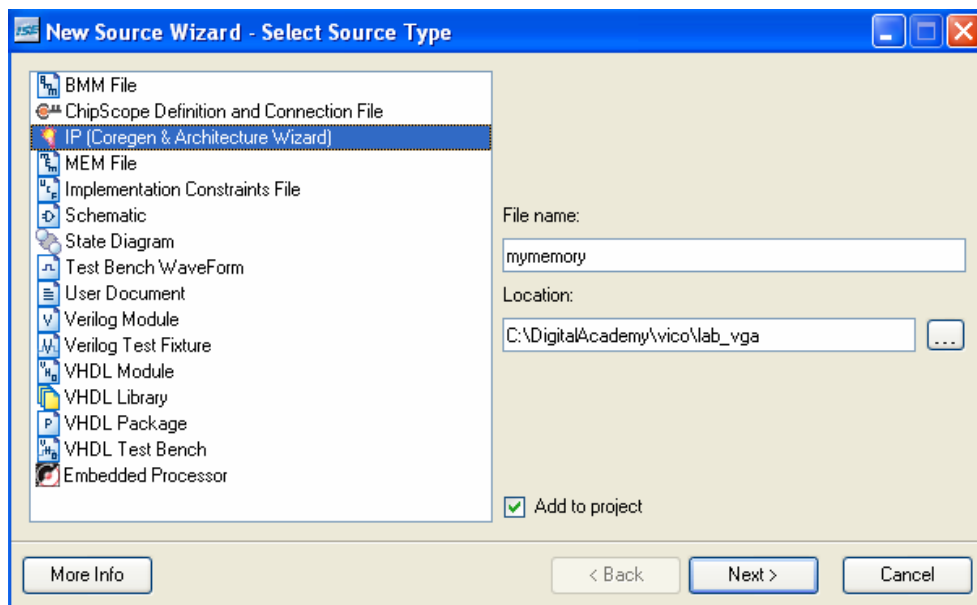

Figure 2. New Source Wizard.
b. Highlight on **IP (Coregen & Architecture Wizard)** in your left and call your source **mymemory** (Figure 2). Click on **Next**.